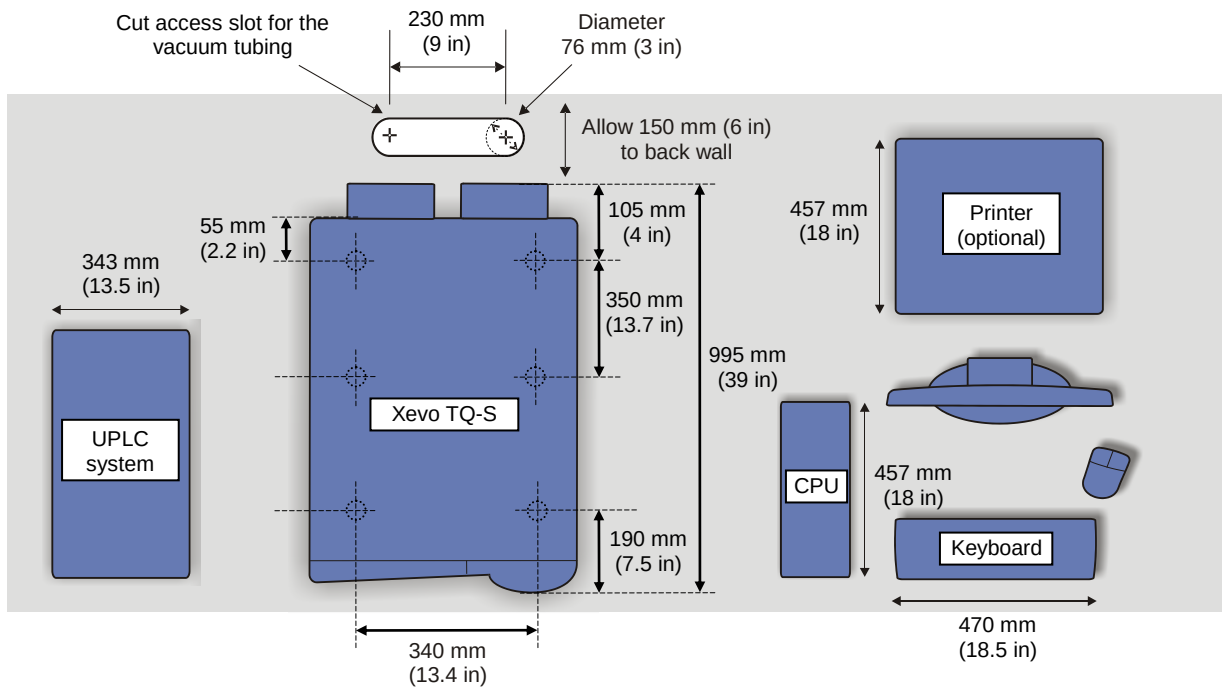

Figure 3 - Plan view, showing space requirements
2. Ensure 150 mm (6 inch) minimum clearance behind the instrument for service access and ventilation, see Figure 3.
NOTE: *If the external pump is positioned under the instrument bench, it may be necessary to cut an access slot (diameter 76 mm, 3 inch) in the bench top to allow the tubing to be passed through to the instrument (Figure 3).*